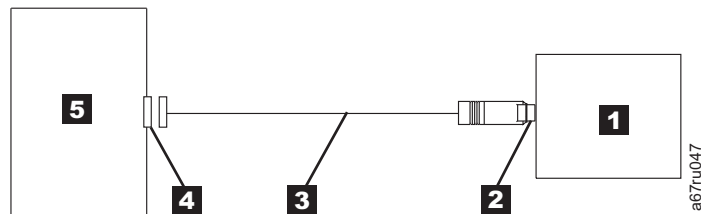
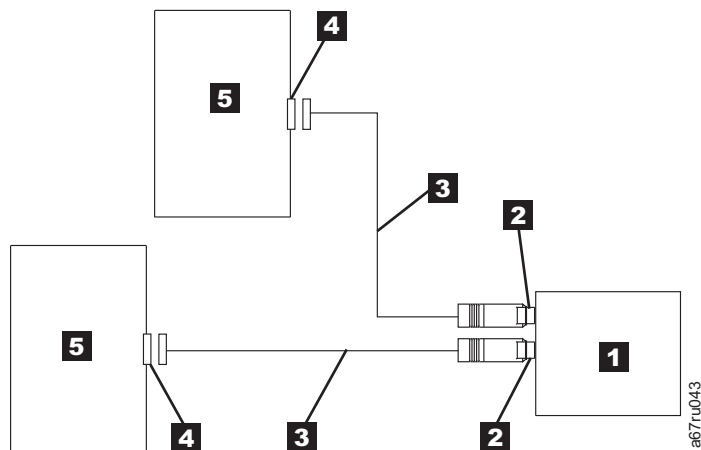

Figure 2-2. Example of connecting one SAS device to the server
Figure 2-3. Example of connecting the SAS device to two servers
3. The tape drive has two SAS ports and can be connected to two servers, if desired. See Figure 2-2 on page 2-5 for connection to one server. See Figure 2-3 on page 2-5 for connection to two servers. Then connect the SAS cable(s) to SAS host adapter(s) and to the tape drive as shown.